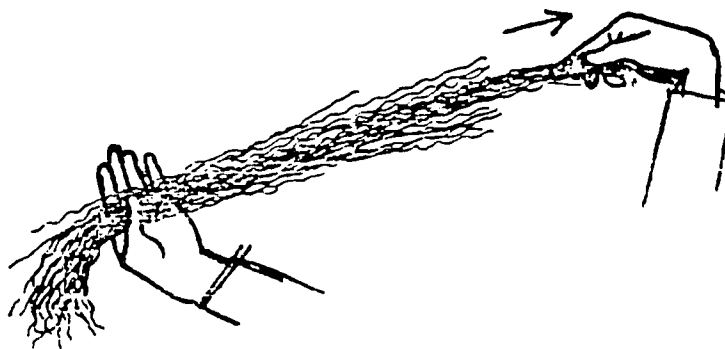

Figure 1. Pulling fibers from an untwisted bundle.
6. Untwist another yarn and loosen all the fibers. Hold the whole bundle of fibers in one hand and with the other hand slowly pull a few fibers out of the bundle (Figure 1). Pay attention to how it feels to pull the fibers apart.